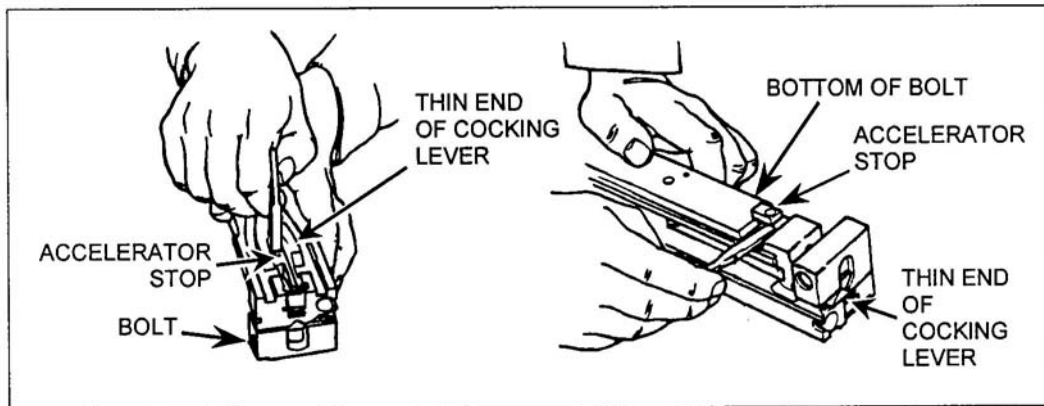

Figure 13. Removal of the accelerator stop.
- (f) Using the thin end of the cocking lever, press the accelerator stop from the bolt, turn the bolt over, and pry the accelerator stop from bottom of bolt (Figure 13).